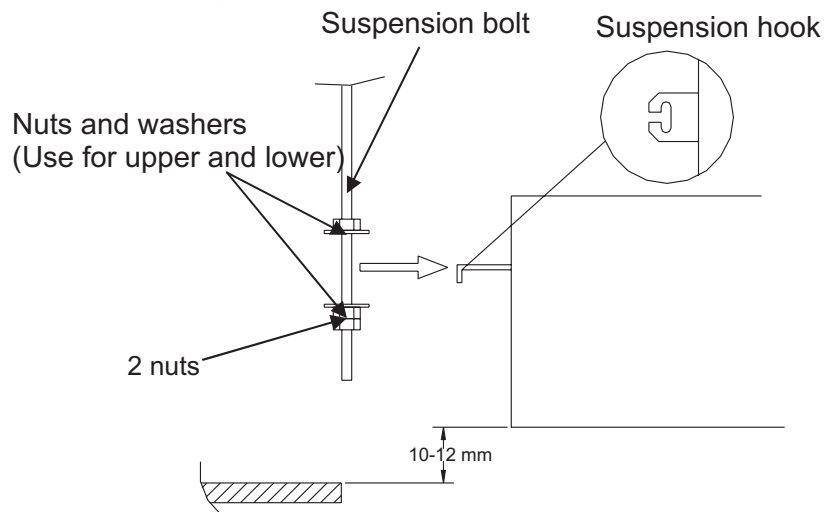

Fig.9
- In order to prevent a possible looseness, it is recommended to use 3 hexagonal nuts (Prepared on site) and 2 washers (accessory) for each suspension bolt. Pay attention that 2 nuts will be used in the lower side.(Fig.9)
- Adjust the distance between the unit and the ceiling bottom to 10~12mm. Tighten all the nuts on the suspending bolts.(Fig.9)